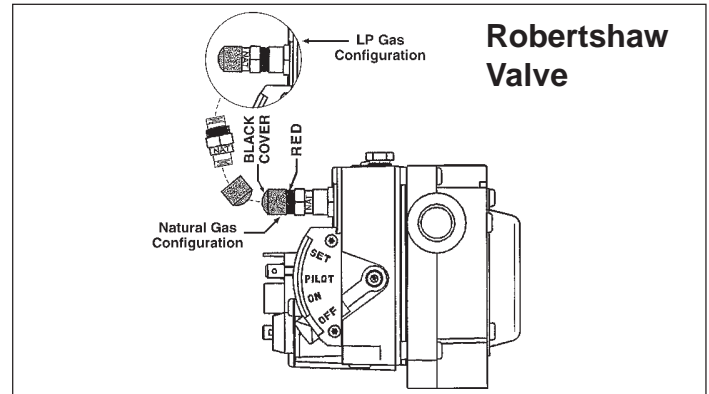

Figure 9. Convertible Pressure Regulator
- h. For the Robertshaw gas valve with the regulator converter (Figure 9), remove the black cover and unscrew the converter located on top of the gas valve. Invert the converter. (For "LP" the red ring will be located at the bottom and the "LP" stamping on the converter will appear right side up.) Then screw converter back into the regulator, hand tight plus 1/8 turn, and replace the black cover onto the converter top to protect the threads.